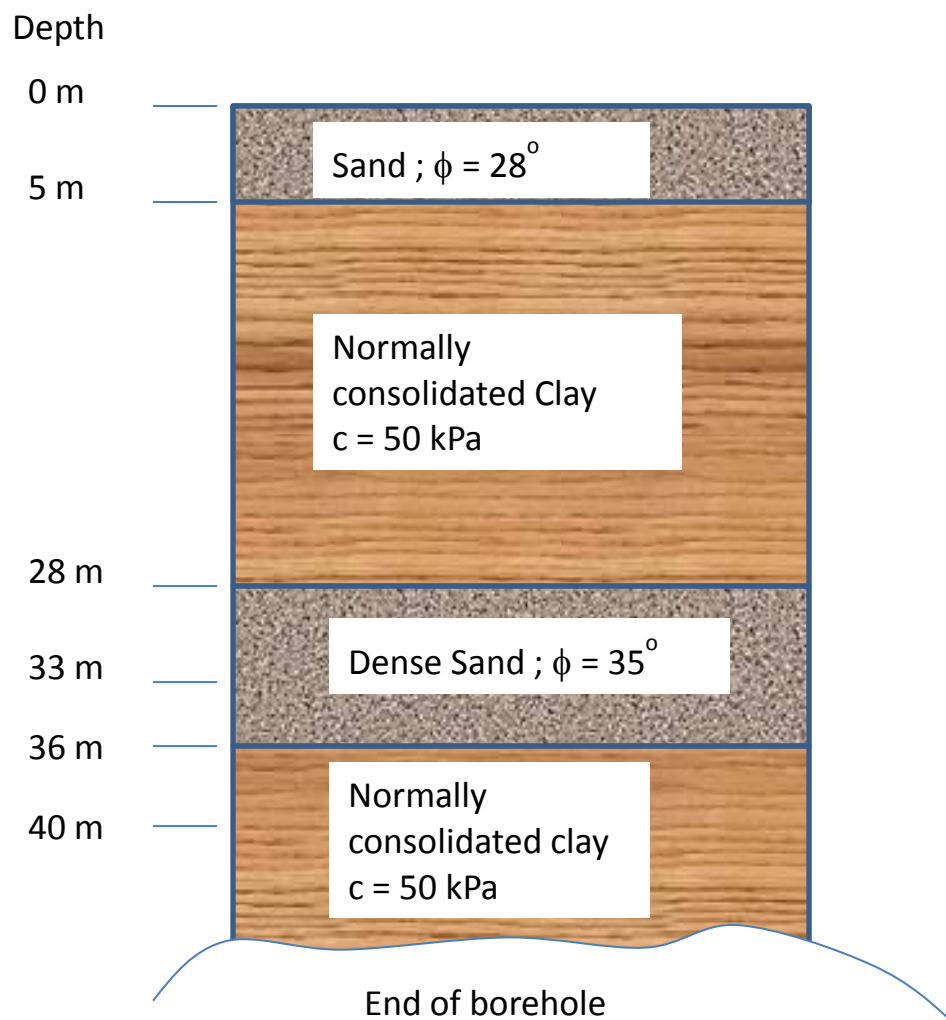

Figure 5 – The profile of a site where a pile needs to be driven into
6. Determine the capacity of a 40cm by 40cm, single, concrete pile when driven to the depth of 28m, 33m, and 40m, through the profile shown in **Figure 5**. This can be achieved by filling the spaces of **Table 2** given by a, b, c, d, e, f, g, h, j and k after carrying out the necessary calculations. Finally, determine the penetration depth that gives the highest bearing capacity.